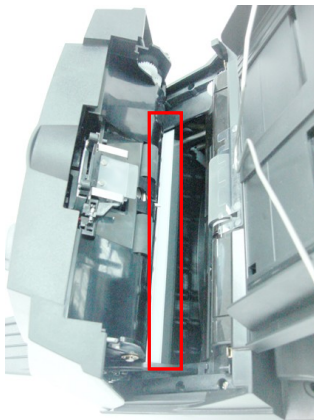

Figure 6-2 The Cleaning Area
6. Open the ADF unit and document cover as shown in Figure 6-2. Wipe the glass of flatbed and the glass in the ADF unit.